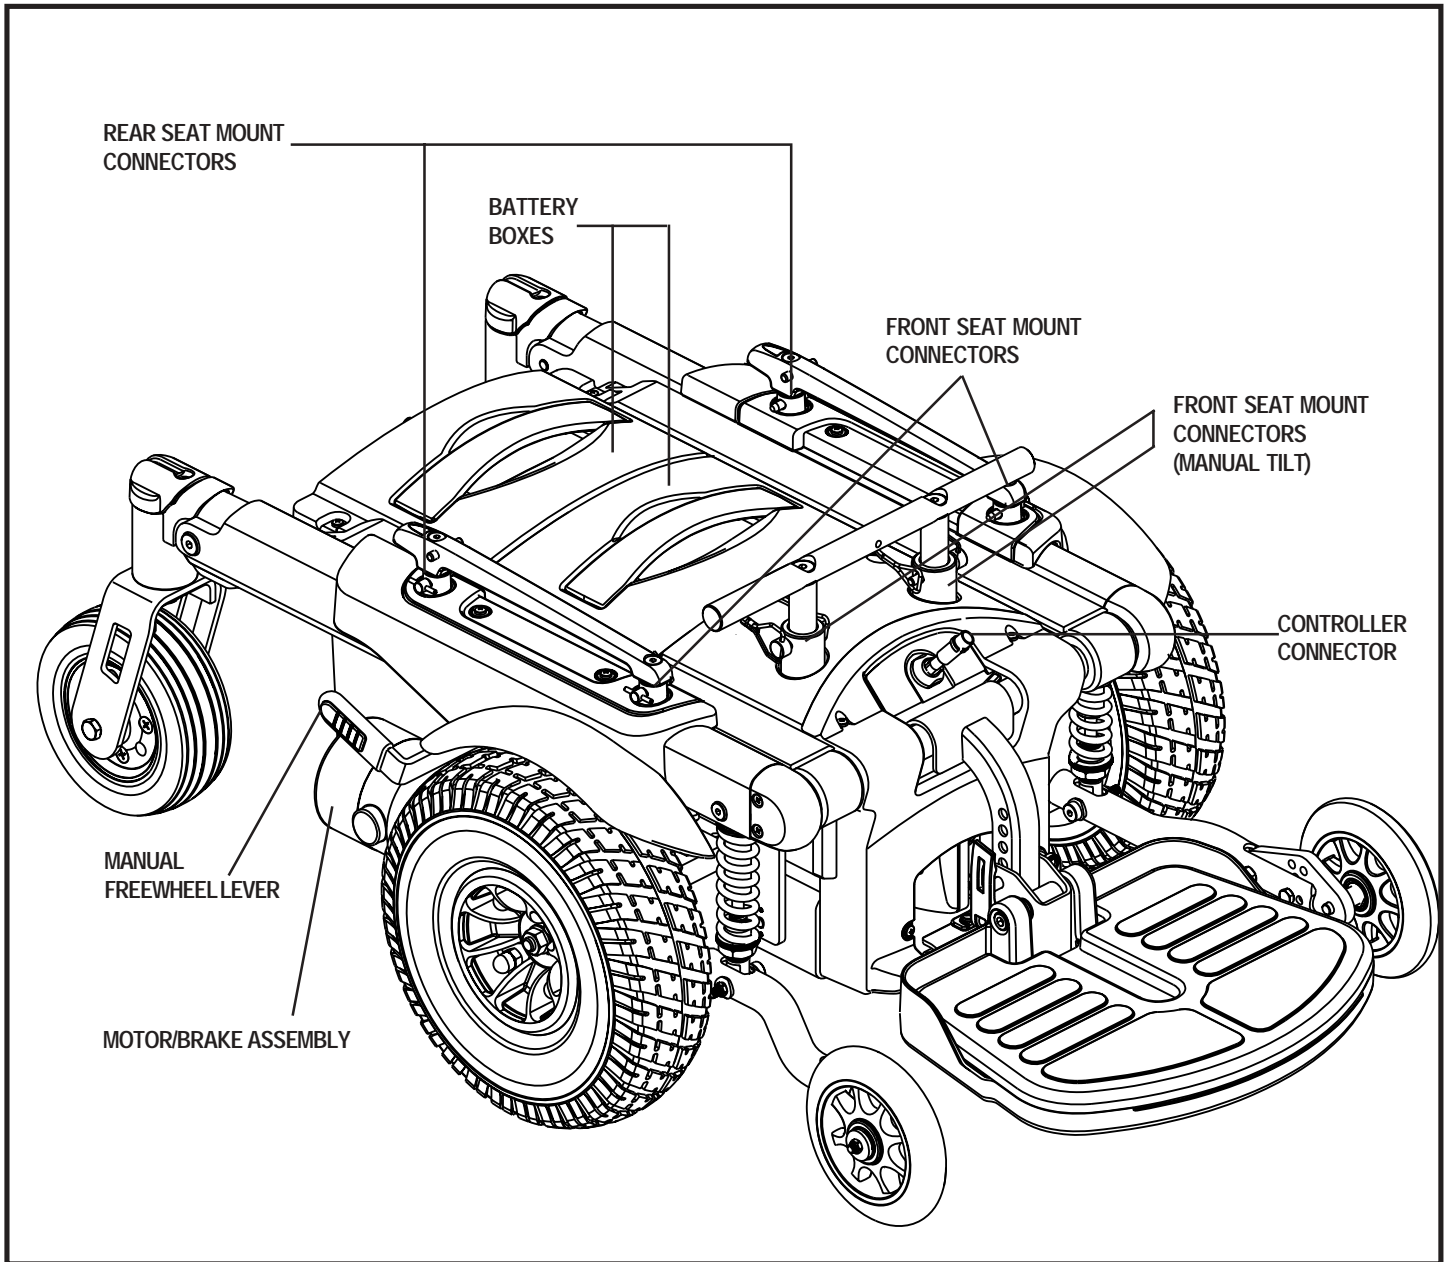

Figure 6. The Quantum Dynamo 1107 Power Base
The electrical components consist of the controller assembly, the batteries and the motors. The batteries, motor and controller power module are located on the power base assembly. See figures 6 and 7. The controller is located on the seat assembly. Connectivity between the controller and the motors, the batteries and the battery charger is provided by one or more wiring harnesses.
Your power chair has a manual freewheel lever on each motor. See figure 6. Manual freewheel levers enable you to disengage the drive motors from the gearboxes and manoeuvre the chair manually.
2. Disconnect the controller harness from the power base. See figure 6.